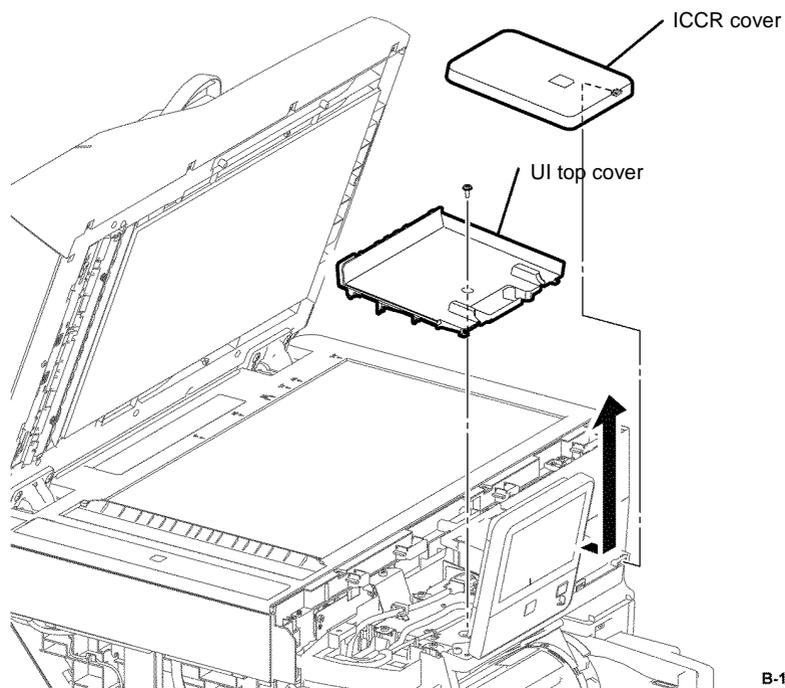

Figure 2 ICCR and UI cover removal
4. Remove the ICCR cover, Figure 2.
5. Remove one screw (black, tapping, 6mm), then remove the UI top cover, Figure 2.